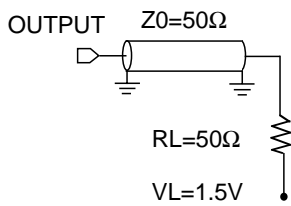
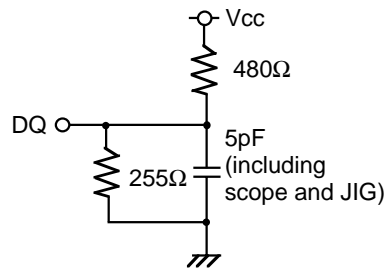

Fig.1 Output load
Fig.2 Output load for ten, tdis
Output loads ..... Fig1, Fig2
5. Transition is measured  $\pm 500\text{mv}$  from steady state voltage with specified loading in Figure 2.